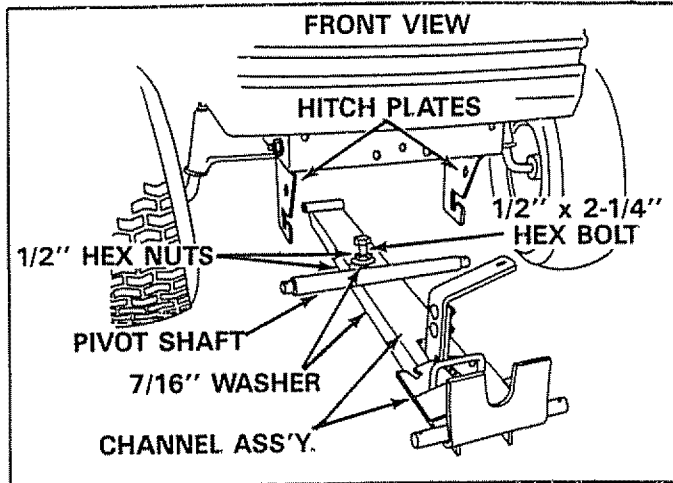

FIGURE 6
- Assemble one 1/2" x 2-1/4" hex bolt into slotted hole in channel assembly, (see figure 6) with one 1/2" hex nut and one 7/16" standard washer on top side and one 1/2" hex nut and one 7/16" standard washer under channel. **Do not tighten at this time.**
- Assemble channel assembly to front of tractor as shown in figures 6 and 7.